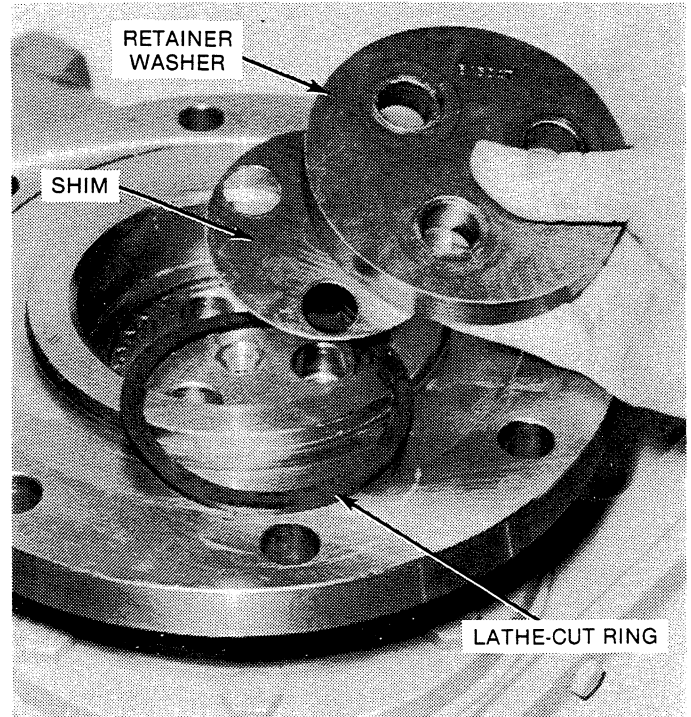

Figure 6-20. Retainer Washer, Shim, and Rubber Seal Removed.
1. Remove three hex-head screws (Figure 12-5, 3) from retainer washer (4) on the output flange (8) and remove the retainer washer, rubber seal (6), and shims (5). See Figure 6-20.